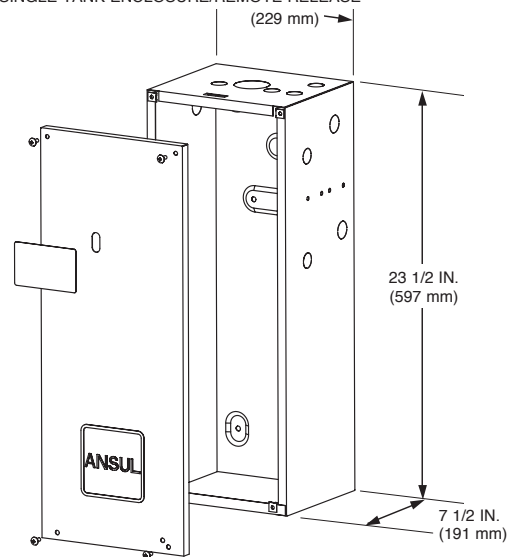

FIGURE 5-4
a. Select a rigid, vertical surface for mounting the enclosure or bracket. Keep in mind that the 3 gal tank is taller than the bracket. Allow sufficient space for convenient piping and removal. See Figure 5-4.